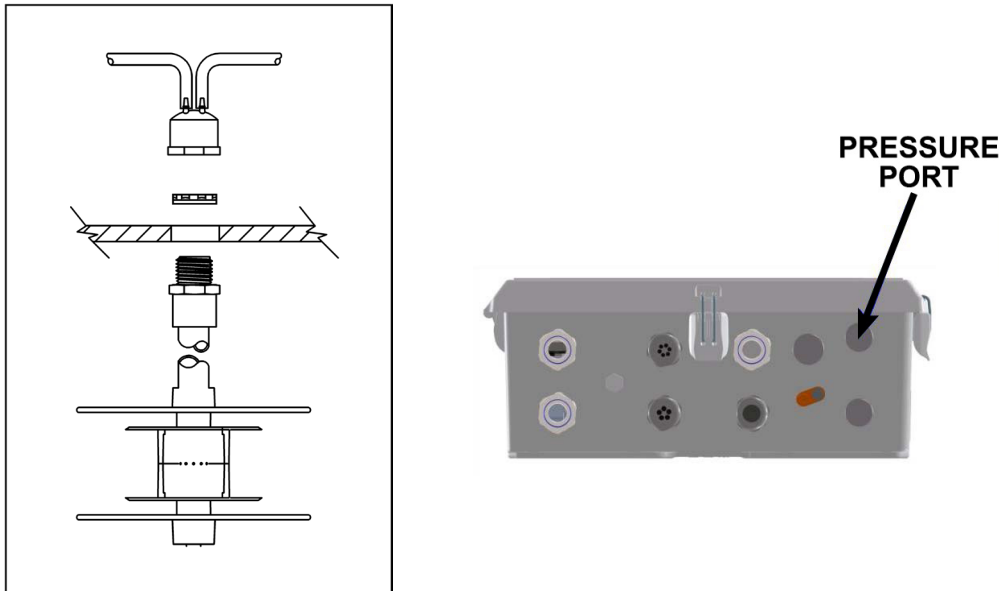

Figure 51. Install Pressure Port at Bottom of DCP Enclosure
1. Install the Pressure Port at the bottom of the enclosure as shown in Figure 51.